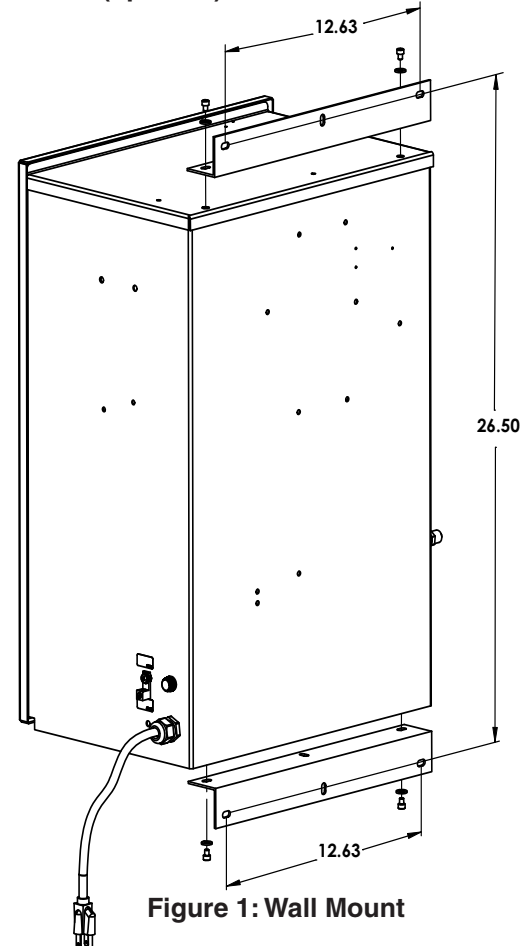

Figure 1: Wall Mount
The ozone generator is designed for wall mounting. **See Figure 1.** Mount generator in a clean, protected area, either indoors or outdoors. (See *LOCATION REQUIREMENTS Section 1*) They can also be mounted to the floor or deck with optional feet. Locate generator out of reach of sprinklers or drainage spouts. Allow sufficient access for maintenance and all tubing and electrical wires. The generator must not be placed in locations where ambient ozone levels exceed 0.01 PPM.
2. Refer to Figure 1. Mark the locations for the four mounting bolts and install anchors appropriate for the mounting surface.